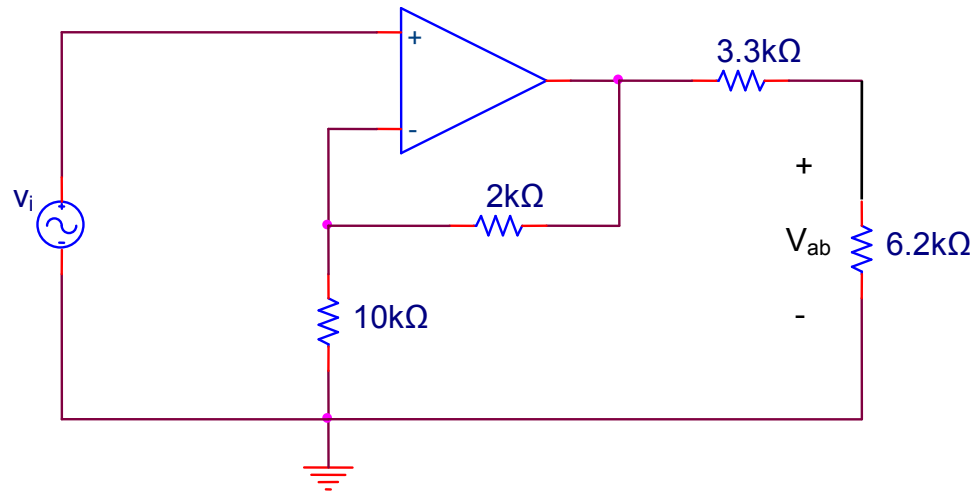

Figure 6.4
3. Calculate the voltage V_{ab} across the $6.2\text{k}\Omega$ resistor in Figure 6.4.
5. Construct the circuit of Figure 6.4. Measure the voltage V_{ab} with an oscilloscope. Compare your result to that obtained in the pre-lab.